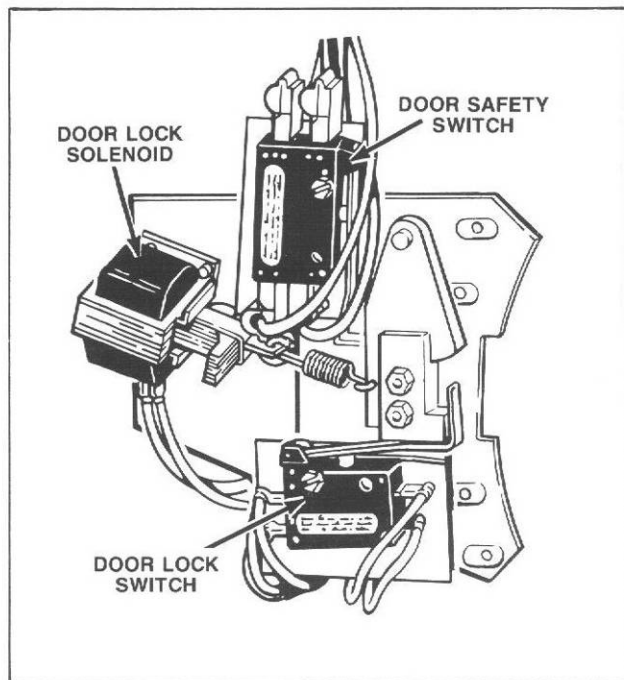

Figure 51
49. DOOR LOCK ASSEMBLY (Refer to Figure 51)